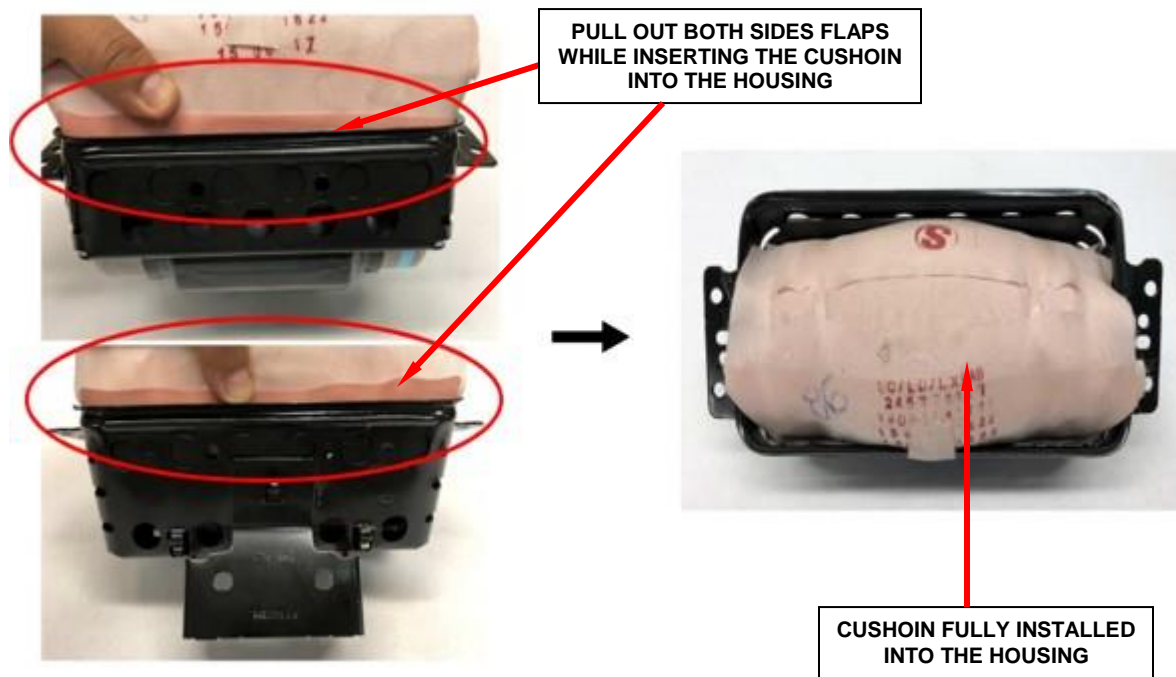

Figure 40 – Side Flaps Must Be Held Out
- i. Insert the cushion, pulling out both side flaps (Figure 40).